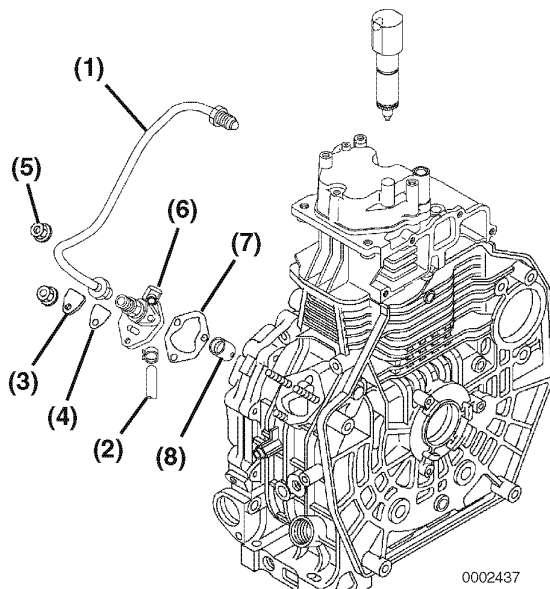

Figure 9-20
3. Install the original fuel injection pump shim(s) (**Figure 9-20, (7)**).
4. Install the fuel injection pump (**Figure 9-20, (6)**) into the crankcase, ensuring that the fuel injection pump lever pin (**Figure 9-19, (1)**) is engaged in the governor lever fork (**Figure 9-19, (2)**).
5. Install the two side mounting nuts (**Figure 9-20, (5)**) and tighten to specification. See *Special Torque Specifications* on page 9-5.
Note: If the original fuel injection pump, camshaft and injection pump tappet (**Figure 9-20, (8)**) are being reused, you do not need to recheck the fuel injection timing. If any of these components have been replaced, it will be necessary to check the fuel injection timing. See *Checking and Adjusting Fuel Injection Timing* on page 9-11.
6. Install the inspection cover (**Figure 9-19, (3)**), gasket (**Figure 9-20, (4)**) and nut. Tighten to specification. See *Special Torque Specifications* on page 9-5.
7. Install the fuel injection high-pressure fuel injection line (**Figure 9-20, (1)**). Tighten the nuts to specification. See *Special Torque Specifications* on page 9-5. **NOTICE:** Always use a wrench to hold the fuel injection pump fuel delivery valve to prevent loosening of the delivery valve when loosening or tightening the high-pressure fuel injection lines.
8. Install the fuel supply line (**Figure 9-20, (2)**).